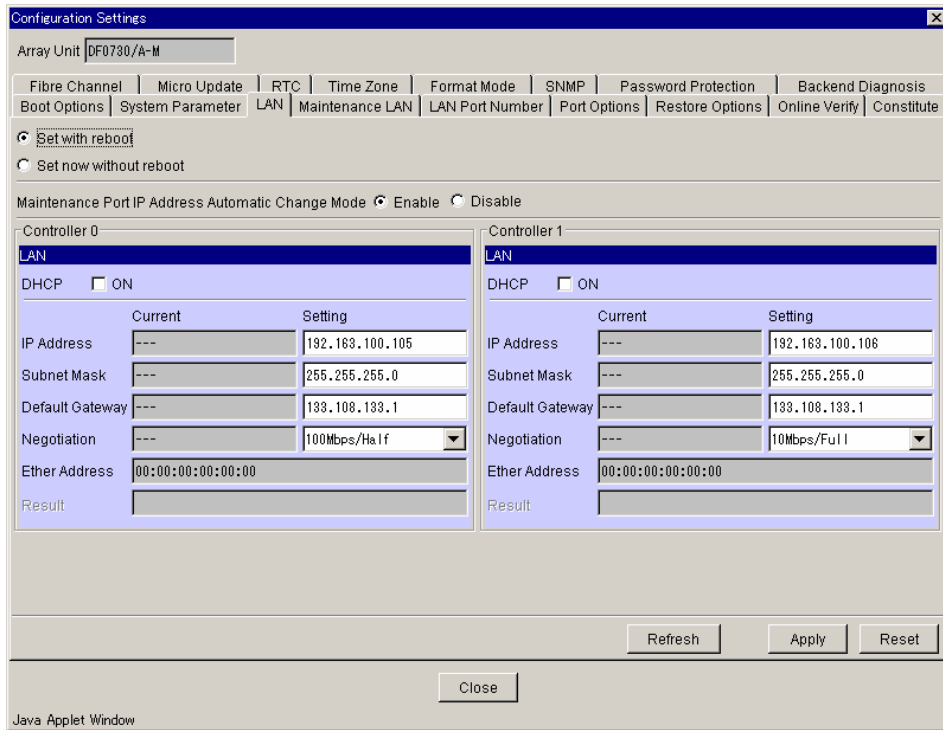

Figure 9.14 Configuration Settings - Set with Reboot Array Unit
2. Click the **LAN** tab. See Figure 9.14.